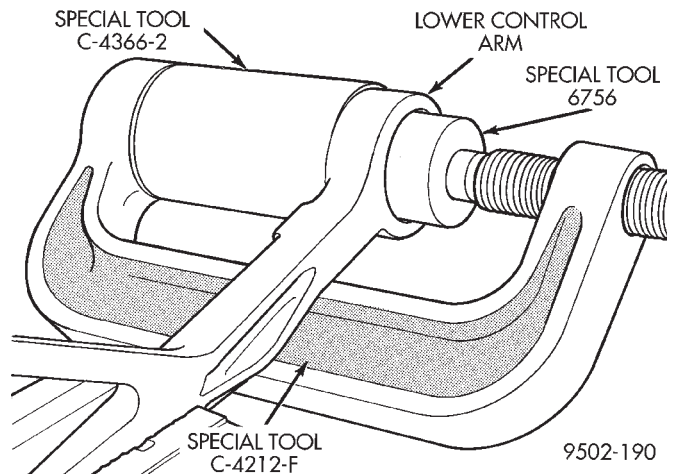

Fig. 89 Removing Lower Control Arm Rear Bushing
(1) Remove lower control arm assembly from vehicle. See Lower Control Arm Removal in this section of the service manual for the required removal procedure.
(2) Install Bushing Remover, Special Tool 6756 and Bushing Receiver, Special Tool C-4366-2 on Special Tool C-4212-F (Fig. 89).
(3) Install Special Tools assembled for removal of the rear isolator bushing on the lower control arm. Be sure Special Tool C-4366-2 is square on lower control arm and Special Tool 6756 is positioned correctly on isolator bushing (Fig. 89).